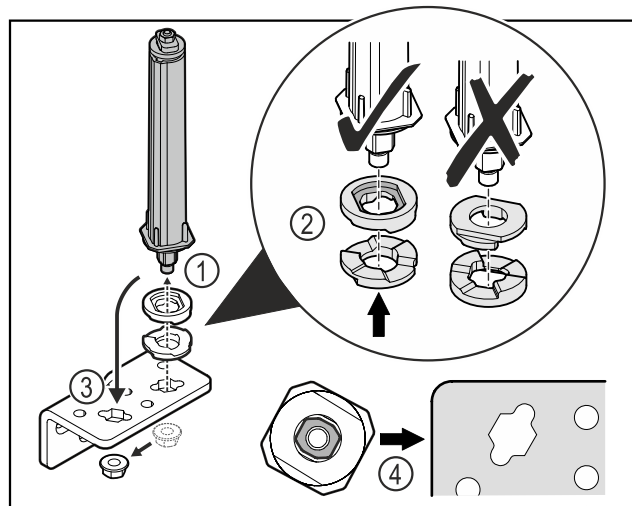

Fig. 24
- Loosen the nut and remove the door closing system *Fig. 24 (1)*.
- Observe the correct alignment of the height adjustment washers *Fig. 24 (2)*.
- Put the door closing system in the hinge and fix in place with the nut *Fig. 24 (3)*.
- Observe the correct alignment of the door closing system when doing so *Fig. 24 (4)*.